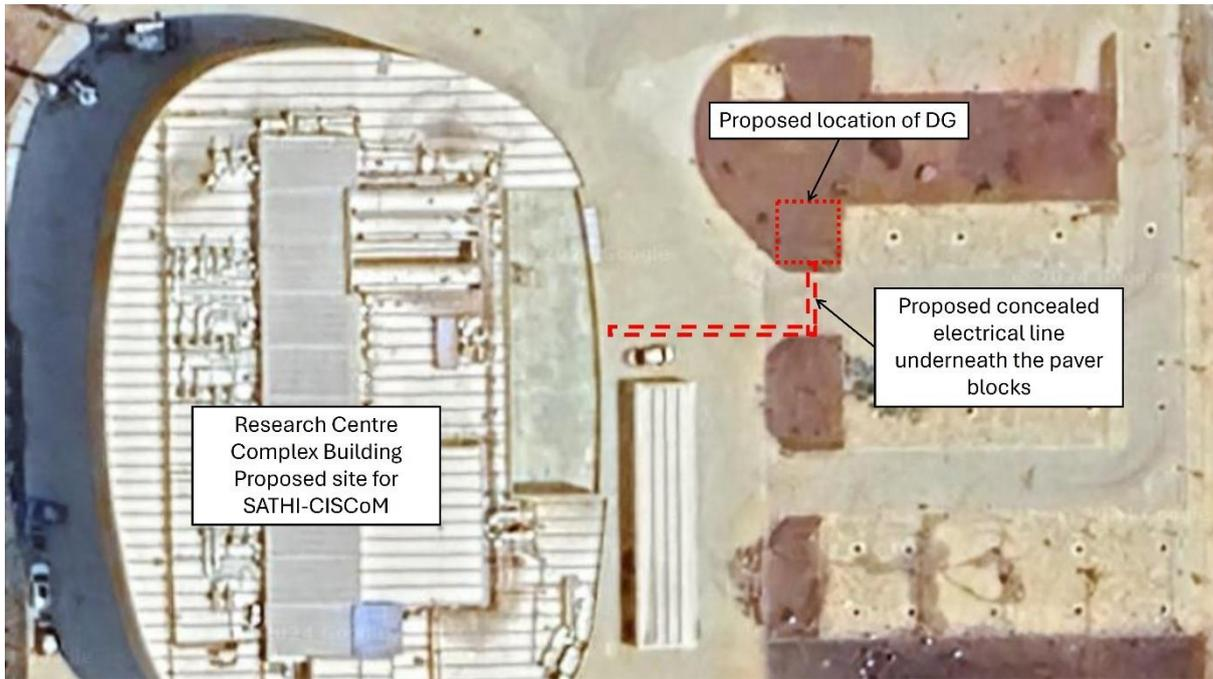

Figure 10. Location of the DG and suggested electrical pathway
- The location of the DG is as per the Figure 10. The wiring must be concealed with appropriate casing (preferably RCC pipes of suitable dia) and should be below the paver blocks at the location. For the concealed wiring, the paver blocks must be removed and on completion of the installation and wiring, the paver blocks must be re-laid to return the premises back to the previous state.